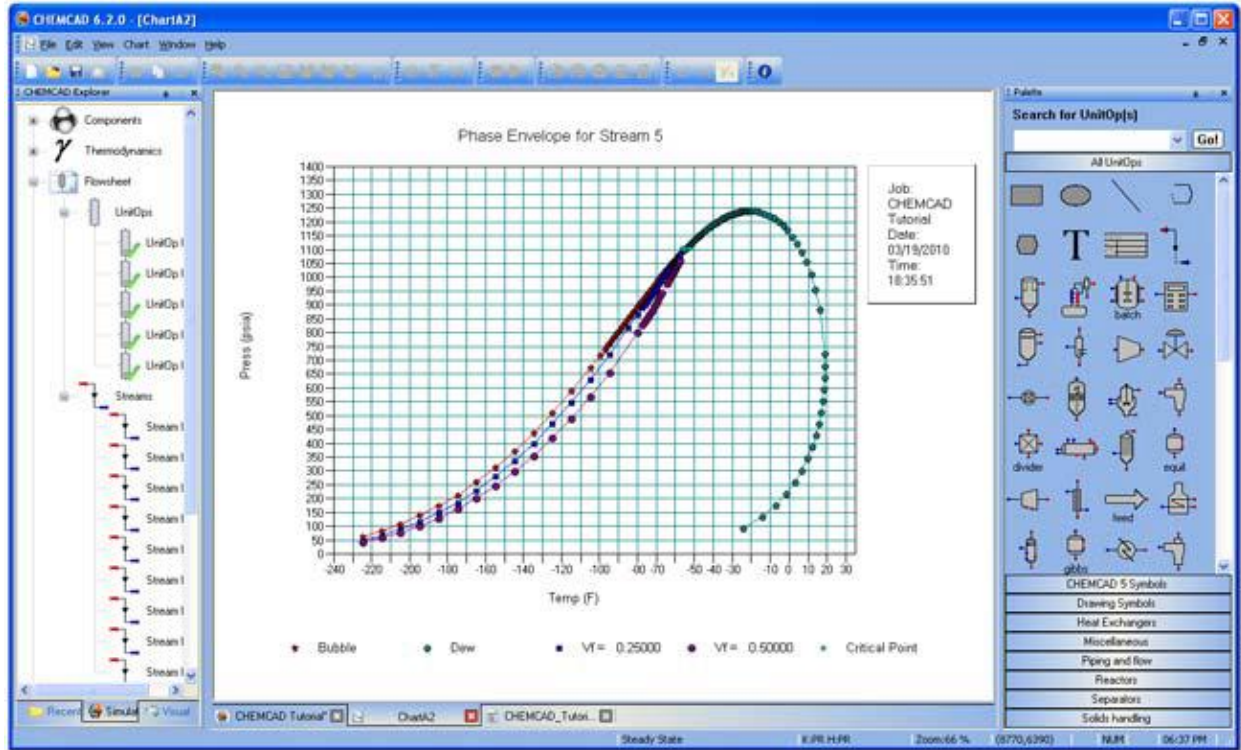

Figure 13: Phase envelope plot results
- A graphical plot of temperature and pressure for each vapor fraction line requested The tabular results will appear first; since you're interested in the graphical results, close the window displaying the table. The screen will now look similar to Figure 13. Note that the main CHEMCAD button toolbar is largely unavailable now, and the menu items have changed